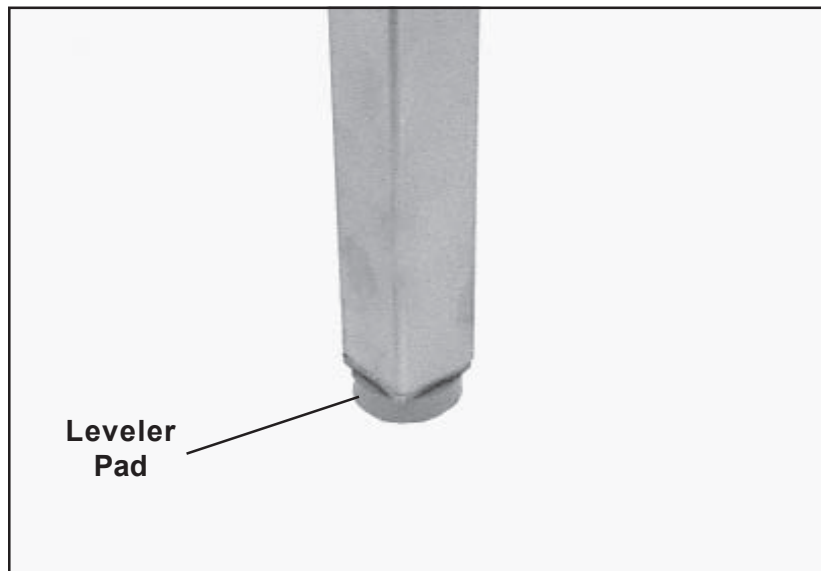

Figure 17. Stainless Steel Leg with Leveler Pad
5. Repeat *Steps 2 through 4* until the table is stable (Figure 17).